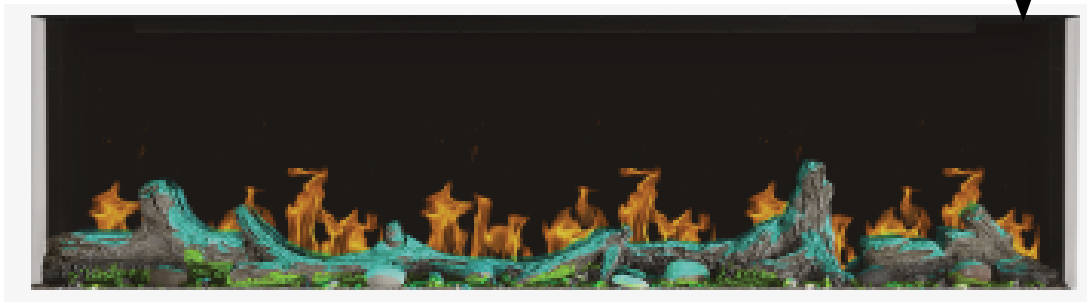

Fig. 1
1. Ensure the appliance is plugged in and turned on (**Fig. 1**).